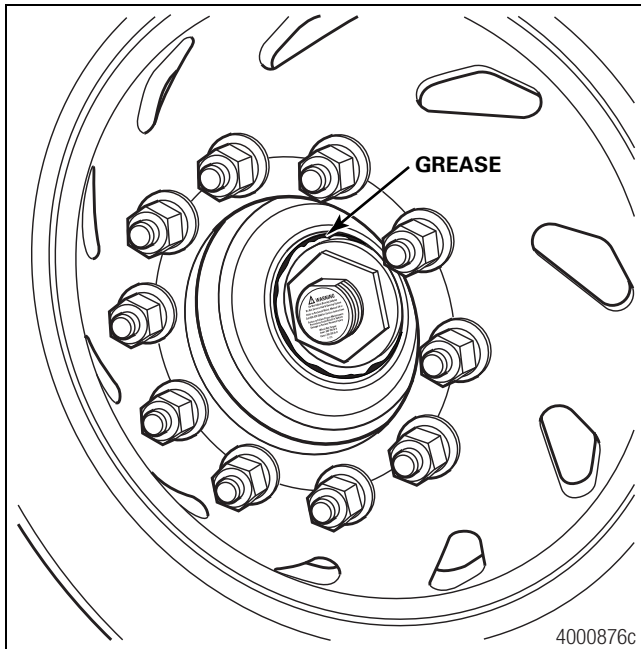

Figure 13.11
**NOTE:** The outboard and inboard seals may purge small amounts of grease that are visible during inspection. Figure 13.11. This is a normal occurrence.